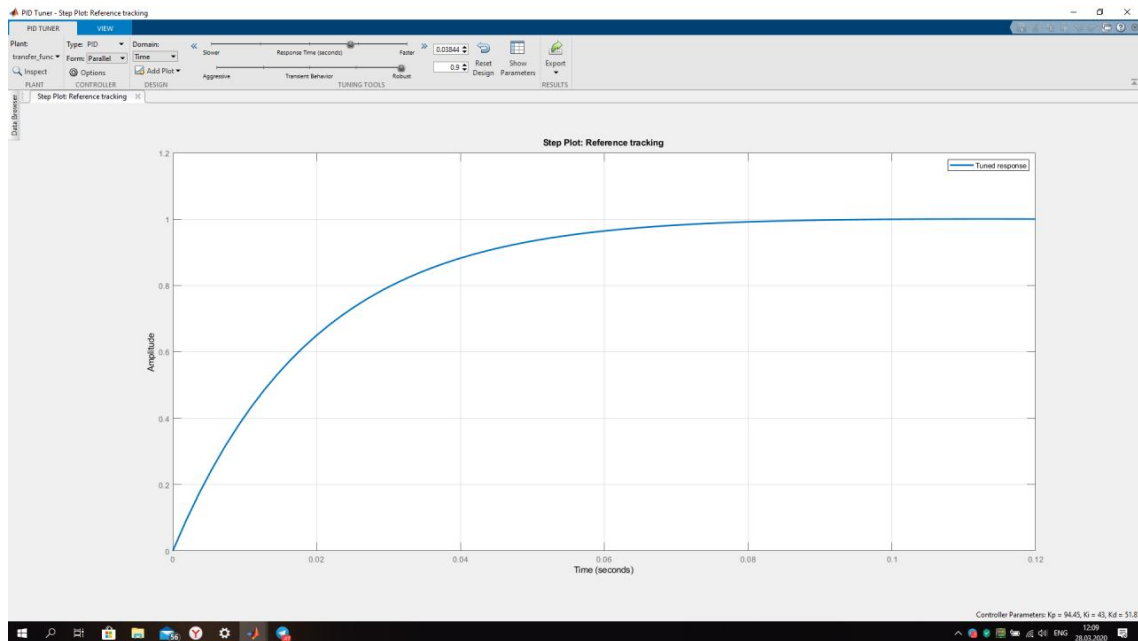

Figure 8: Tuner
- (b) In tuner play with response time and transient behavior to minimize overshoot. Figure 8 show the tuner's interface after tuning. Figure 9 shows tuned parameters. As we can see, there is still small overshoot of 0.0362%, but combining with small rise and settling time, the result is good. Final version of the controllers is at figure 10.